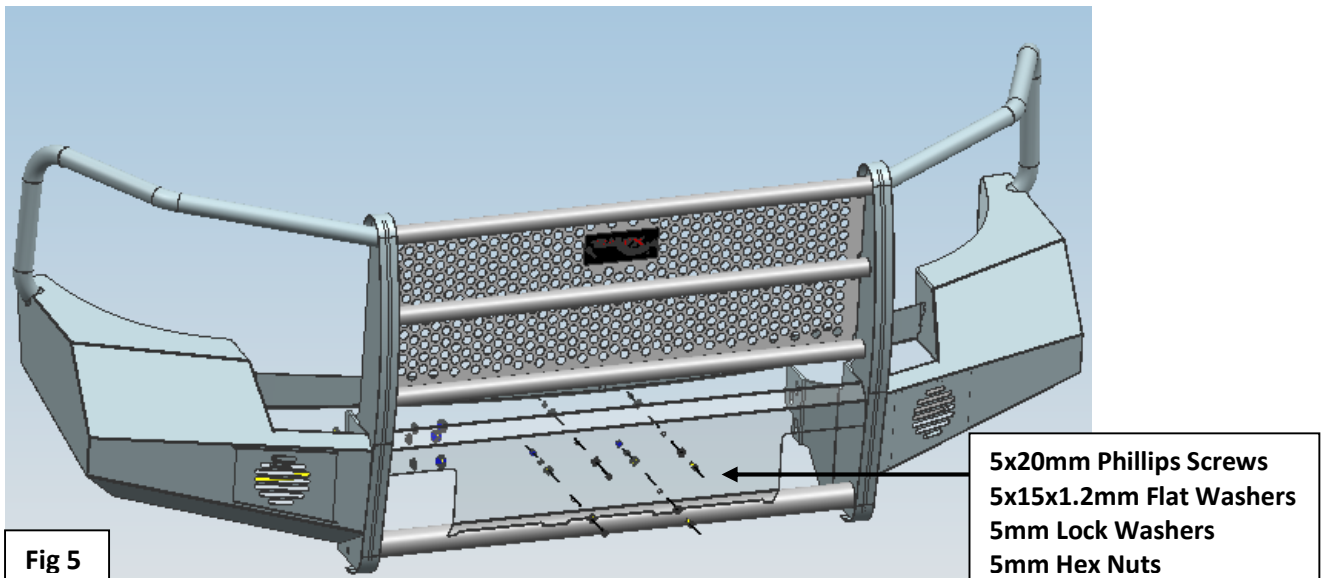

Fig 5
2. Attach the license plate to the Replacement Bumper (Fig 5). Fasten the license plate with the hardware.